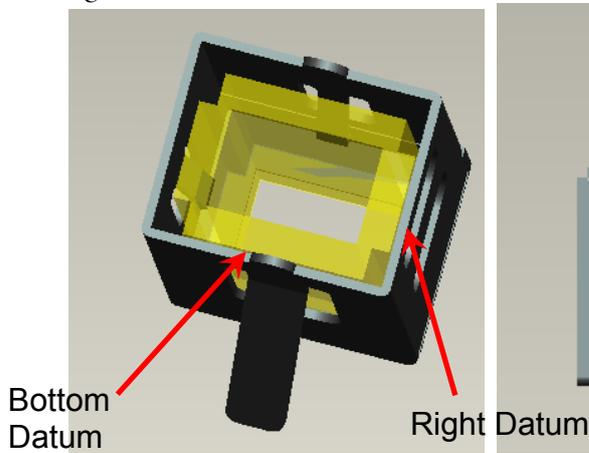

Fig. 4-1
4.1 LP must datum well with “BKT_LP” show as Fig. 4-1.